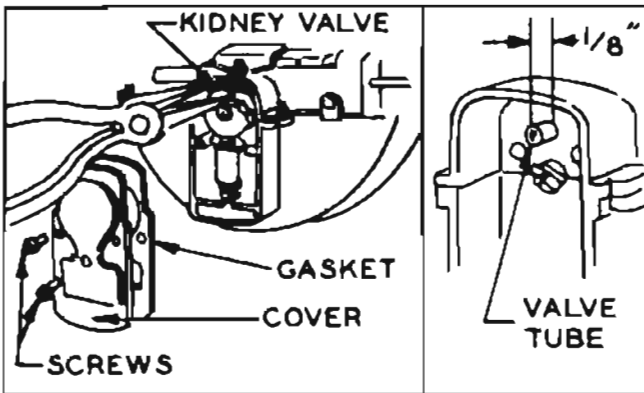

Figure 13-13—Removing Kidney Valve and Checking Tube
2. Check distance that kidney valve tube protrudes from valve body. If distance is greater than $\frac{1}{8}$ ", press tube into valve body to this dimension. See figure 13-13.